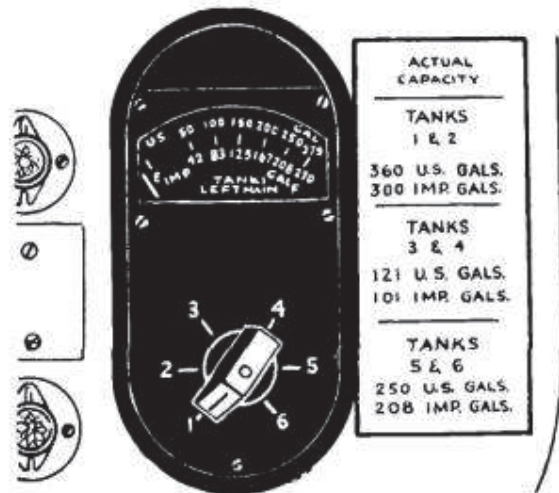

Figure 53 — Fuel Gage
(5) Check fuel gage operation at each setting. (See figure 53.)